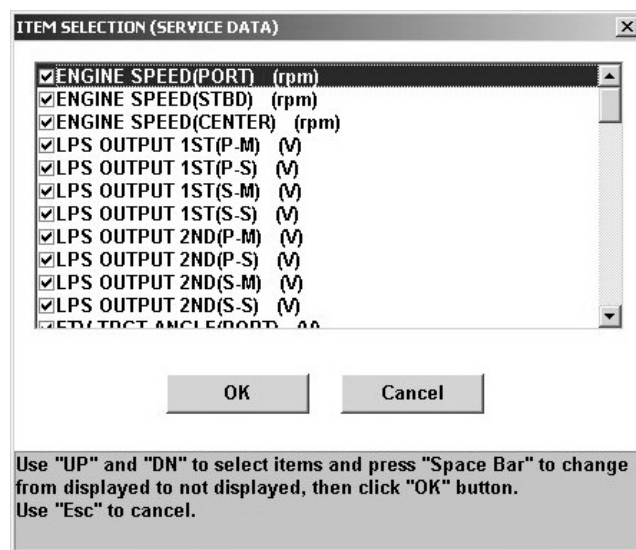

Fig.111
6. The ITEM SELECTION (SERVICE DATA) dialog box appears. (Fig.111)